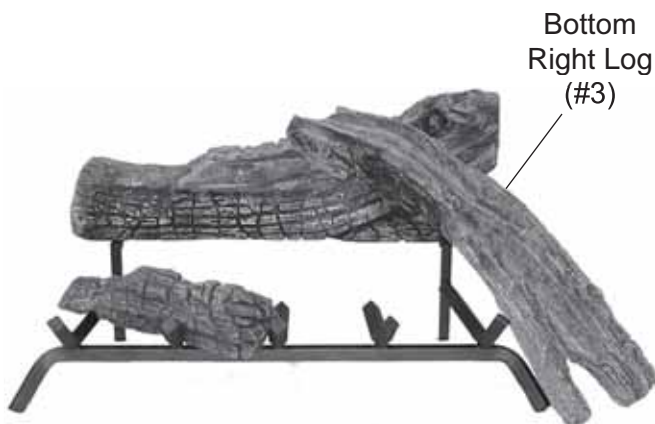

Figure 79 - Placing Bottom Right (#3) Log on Grate
4. Place end of Bottom Right Log #3 on cutout of back log #1. Rest other end of right bottom log to the outside of right grate prong. *See Figure 79.*